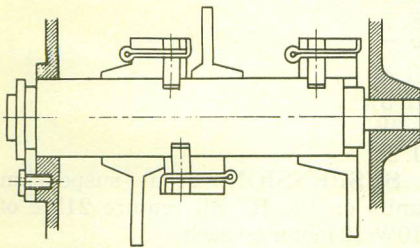
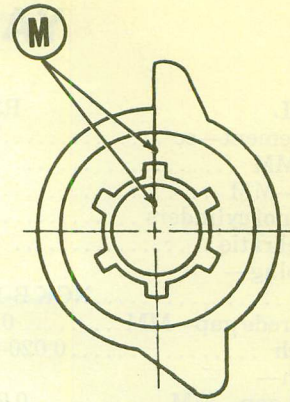
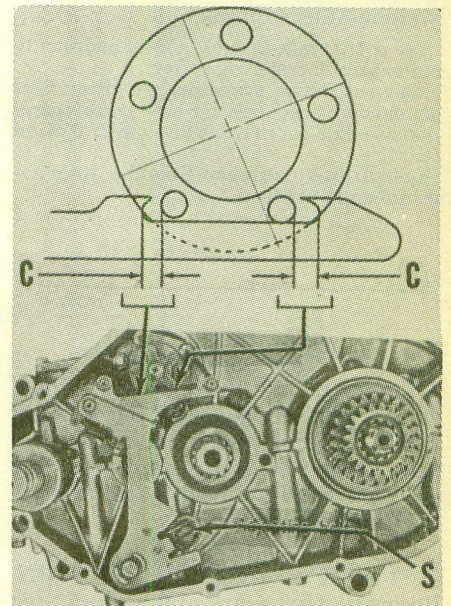

Fig. Y8-23—When installing the shift drum and forks, install cotter pins through guide pins in direction shown. Be sure that forks do not touch cotter pins.
Fig. Y8-24—Align marks (M) on ratchet (14—Fig. Y8-20) and shaft (9) when assembling.
Fig. Y8-25—Turn the eccentric screw (S) until clearance (C) is the same on each side of shift drum pins.
When assembling, make sure that cotter pins for the guide pins are installed in direction shown in Fig. Y8-23 and do not touch shift forks. Marks on end of kick starter ratchet and pedal shaft should be aligned as shown in Fig. Y8-24. Install the crankcase lower half making sure that screws are tightened in sequence stamped on lower half. The 6MM screws should be tightened to 87 inch-pounds torque and the 8MM screws should be torqued to 174 inch-pounds. Adjust position of eccentric screw (S—Fig. Y8-25) until clearance (C) between shift ratchet and shift drum pins is the same.